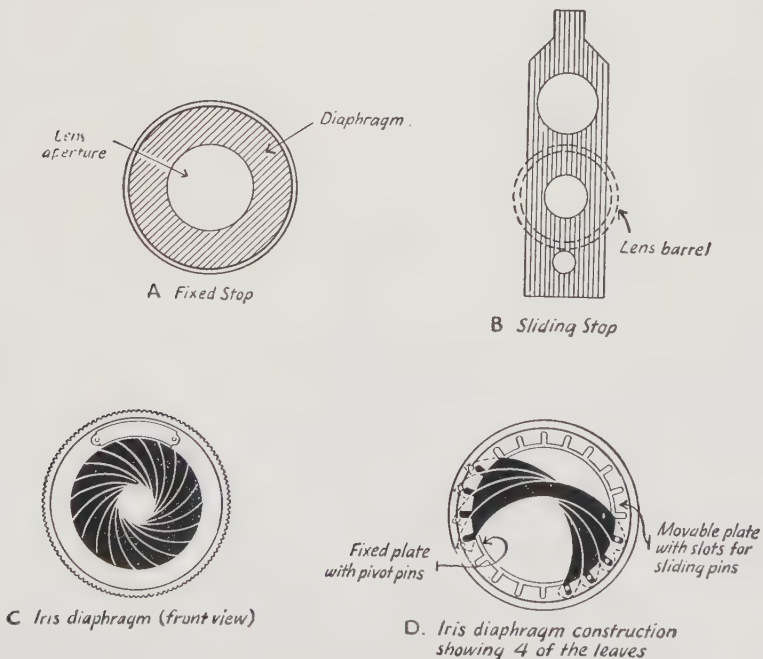

FIG. 38. THE KINDS OF DIAPHRAGMS OR STOPS
Only three different types of stops are used in modern cameras. These are: (1) the fixed stop, (2) the sliding stop and (3) the iris diaphragm. (See *Fig. 38.*)
The Iris Diaphragm is a variable stop, rather ingeniously constructed, which is used in almost all other types of cameras. It consists of a number of curved leaves cut out of thin sheet metal overlapping each other and each pivoted to the inner circumference of the barrel of the lens. These leaves all work together, and by moving the knurled rim of the lens mount they can be made to slide back to the wall of the barrel, like the leaves of a fan. In this position they are wide open and give the lens its largest stop. By moving the rim the other way, the leaves close and you can reduce the opening to any size you want. The diagram, *Fig. 38 D*, illustrates the principle upon which it works.